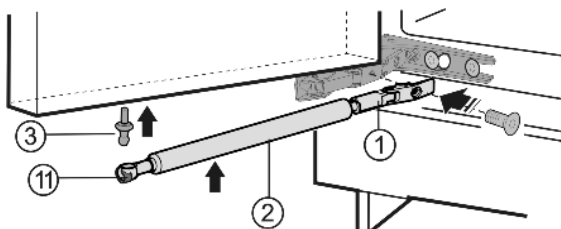

Fig. 5
- ▶ Fasten ball stud Fig. 5 (3) in the new fastening hole.
- ▶ Push tension spring Fig. 5 (11) inwards again.
- ▶ Screw on holder Fig. 5 (1).
- ▶ Attach soft stop mechanism Fig. 5 (2) to ball stud.